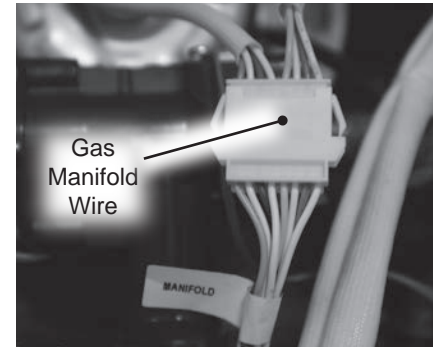

Figure 139 - Disconnecting gas manifold wire
- 27 Locate the gas manifold wire harness and disconnect it. See Figure 139.